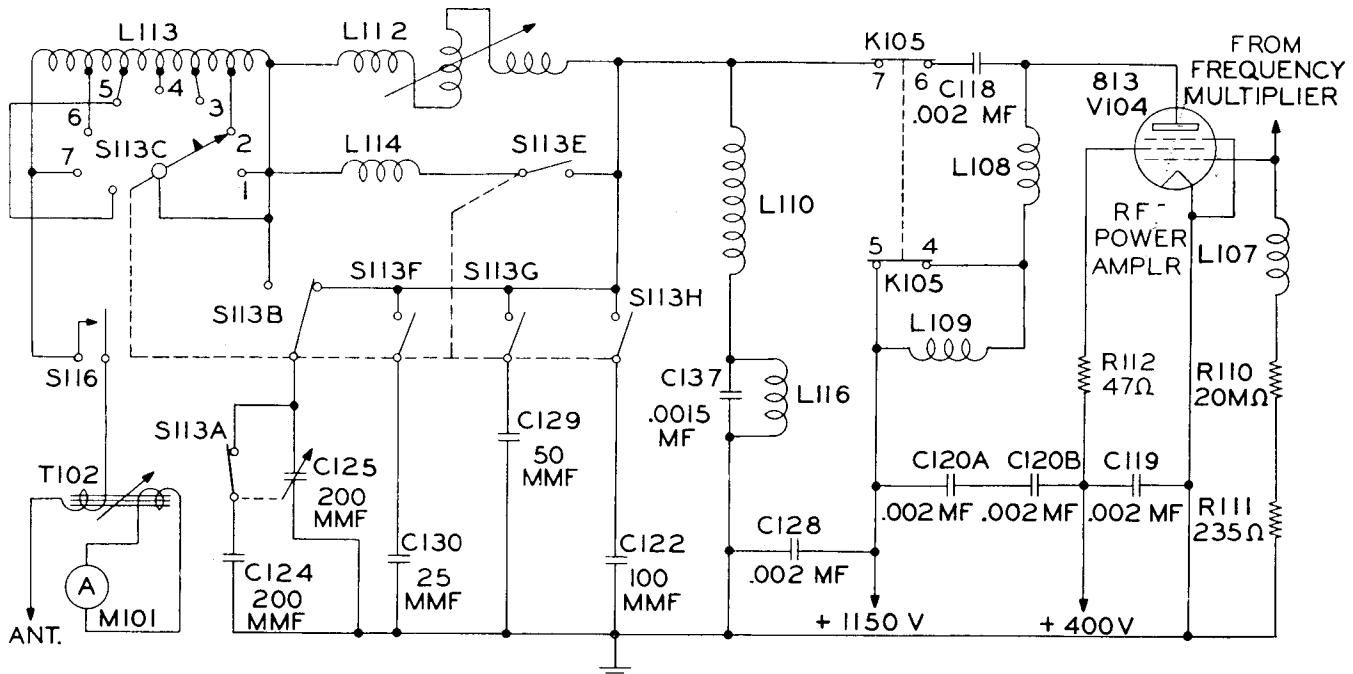

Figure 4-16. High Frequency Power Amplifier Circuit
d. POWER AMPLIFIER AND OUTPUT NETWORK. (figure 4-16.)
(1) The power amplifier stage employs a Type 813 beam pentode tube operating as a straight amplifier at all frequencies. When operating in the frequency range 200 kc to 1500 kc, the output of the LF oscillator is capacitively coupled to the grid of the power amplifier. When the transmitter operates in the frequency range 2.0 MC to 6.0 MC the output of the first frequency multiplier tube, V102, is coupled to the grid of the power amplifier through first multiplier range switch S102 contacts and capacitor C116. When operating in the frequency range 6.0 MC to 18.1 MC the output of the second frequency multiplier tube, V103, is coupled to the grid of the final amplifier tube, V104, through second multiplier range switch contacts S103 and capacitor C116. When LF operation has been selected output circuit selecting relay K105 connects the plate circuit of the final amplifier tube, V104, to external loading coil terminal J117. With output circuit selecting relay K105 in the normal position the plate circuit of final amplifier tube V104 is connected to the output